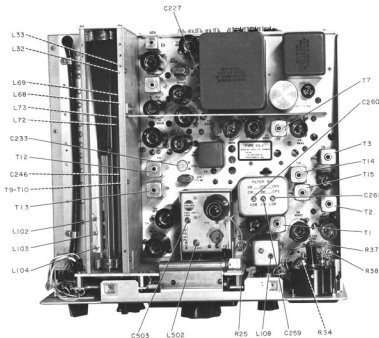

Figure 4-1. Top Chassis, Alignment and Adjustment Locations
Refer to figures 4-1 and 4-2 for adjustment points. For alignment of T9, T11, T12, T13, T1, T2, T3, T14, T15, T7, use Walsco #2543 or General Cement #8282 alignment tool.
d. Set the main trimmer capacitors, C40, C71, and C74, to 1/2 capacity. See figures 4-1 and 4-4.